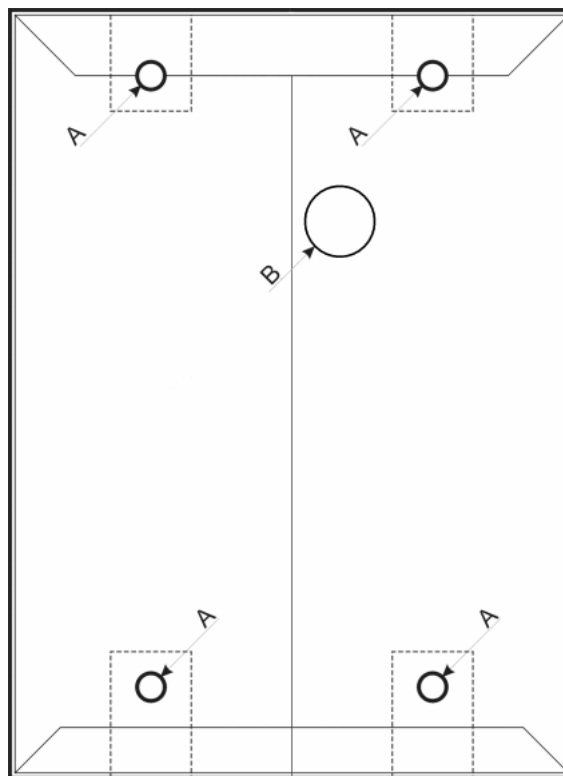

Fig. 3.
4. Fit the cable through the hole **B**. **Fig. 3.**
5. Fasten the case to the wall using 4 holes **A**. **Fig. 3.**
5. Fit the cable through the hole **B**. **Fig. 3.**
6. Fit the case in the frame, fasten the case to the wall using 4 holes **A**. **Fig. 3.**